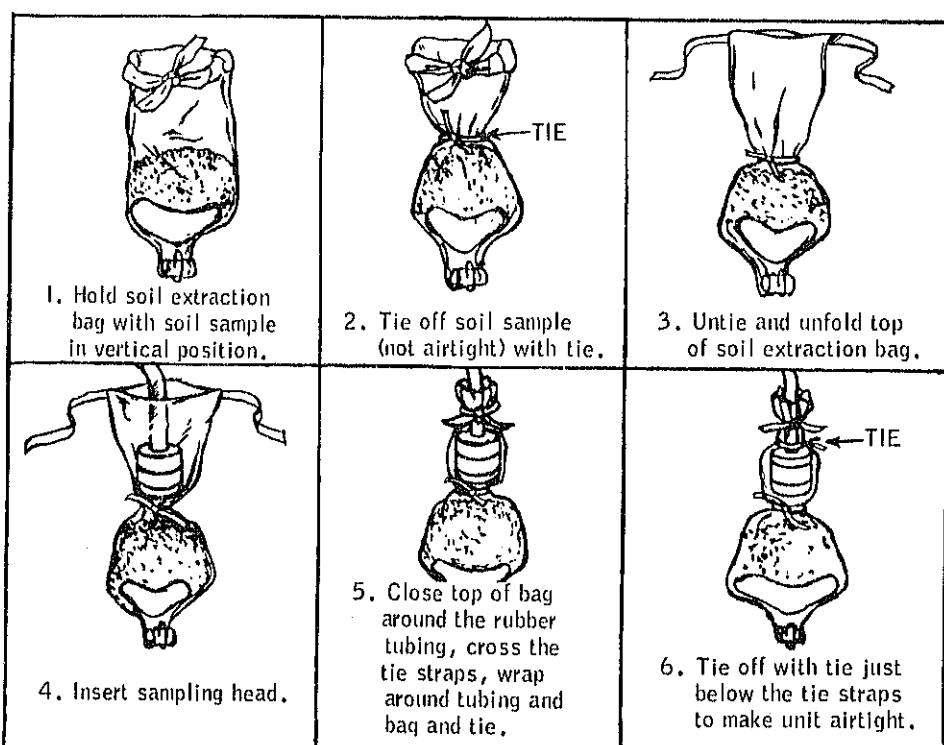

Figure 2-4 (U). Inserting air sampler in soil extraction bag containing soil sample (U).
c. Insert the air sampler in the soil extraction bag as shown in figure 2-4.